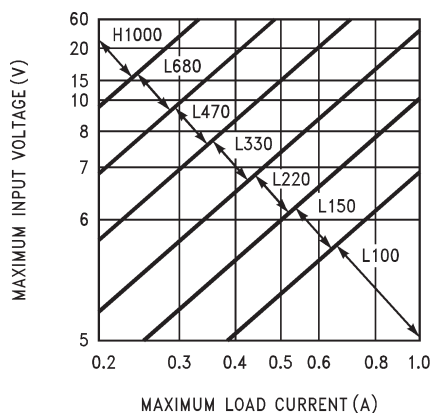
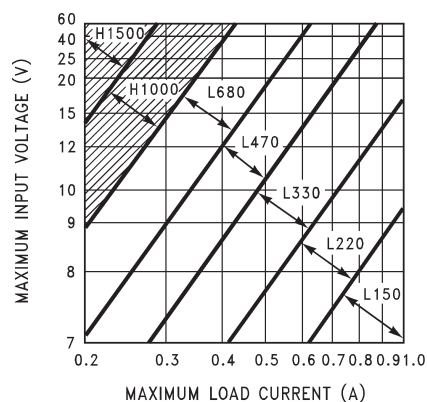
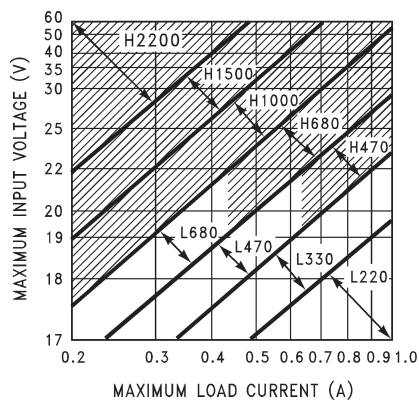

Figure 15. TL2575-33
Figure 16. TL2575-50
Figure 18. TL2575-15
1. Inductor Selection (L1) A. From Figure 15 through Figure 18, select the appropriate inductor code based on the intersection of $V_{IN(Max)}$ and $I_{LOAD(Max)}$. B. From Table 2, choose the appropriate inductor based on the inductor code. Parts from three well-known inductor manufacturers are given. The inductor chosen should be rated for operation at 52-kHz and have a current rating of at least $1.15 \times I_{LOAD(Max)}$ to allow for the ripple current. The actual peak current in L1 (in normal operation) can be calculated as follows: $I_{L1(pk)} = I_{LOAD(Max)} + (V_{IN} - V_{OUT}) \times t_{on} / 2L1$ Where $t_{on} = V_{OUT} / V_{IN} \times (1/f_{osc})$	1. Inductor Selection (L1) A. From Figure 16 (TL2575-05), the intersection of 20-V line and 1-A line gives an inductor code of L330. B. L330 $\rightarrow$ L1 = 330 μH Choose from: 34042 (Schott) PE-52627 (Pulse Engineering) RL1952 (Renco)